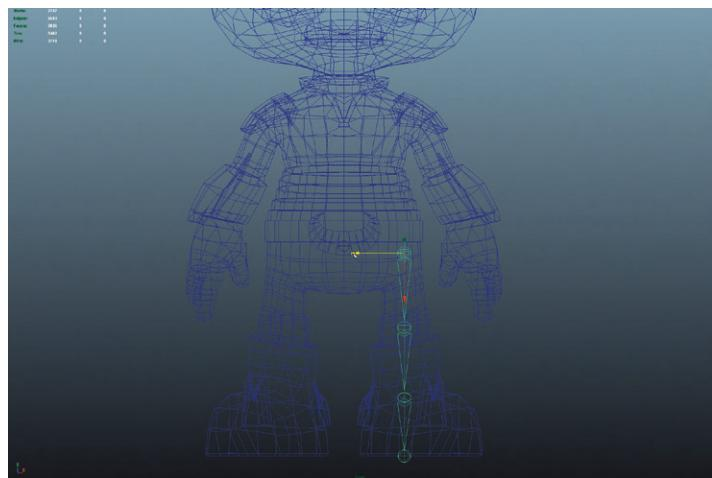

FIG 8.5 Moving the leg joints.
Step 6: Position the leg joints (move only). In the front View Panel, select the L_Hip joint and use the Move Tool to slide the hip over, so that it sits where it should be for the leg (Fig. 8.5).